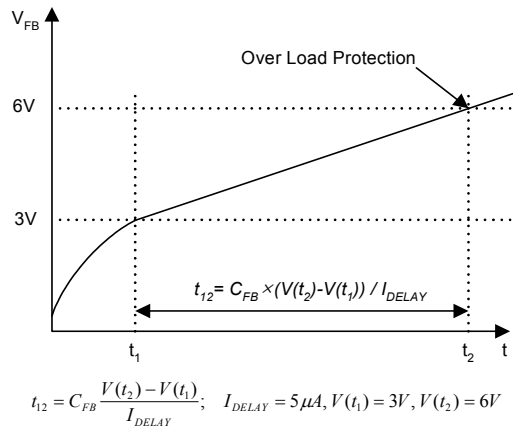

Figure 6. Over Load Protection (OLP)
**4.1 Over Load Protection (OLP)** : Overload is defined as the load current exceeding a pre-set level due to an unexpected event. In this situation, the protection circuit should be activated in order to protect the SMPS. However, even when the SMPS is operating normally, the over load protection (OLP) circuit can be activated during the load transition. In order to avoid this undesired operation, the OLP circuit is designed to be activated after a specified time to determine whether it is a transient situation or an overload situation. In conjunction with the  $I_{pk}$  current limit pin (if used) the current mode feedback path would limit the current in the Sense FET when the maximum PWM duty cycle is attained. If the output consumes more than this maximum power, the output voltage ( $V_o$ ) decreases below its rating voltage. This reduces the current through the opto-coupler LED, which also reduces the opto-coupler transistor current, thus increasing the feedback voltage ( $V_{FB}$ ). If  $V_{FB}$  exceeds 3V, the feedback input diode is blocked and the 5uA current source ( $I_{DELAY}$ ) starts to charge  $C_{fb}$  slowly up to  $V_{cc}$ . In this condition,  $V_{FB}$  increases until it reaches 6V, when the switching operation is terminated as shown in Figure 6. The shutdown delay time is the time required to charge  $C_{fb}$  from 3V to 6V with 5uA current source.